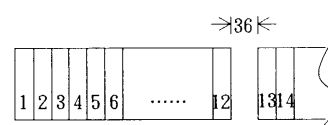

Fig. 1
① Make space for 1 point every 12-channel unit when put it horizontally. (Fig.1)